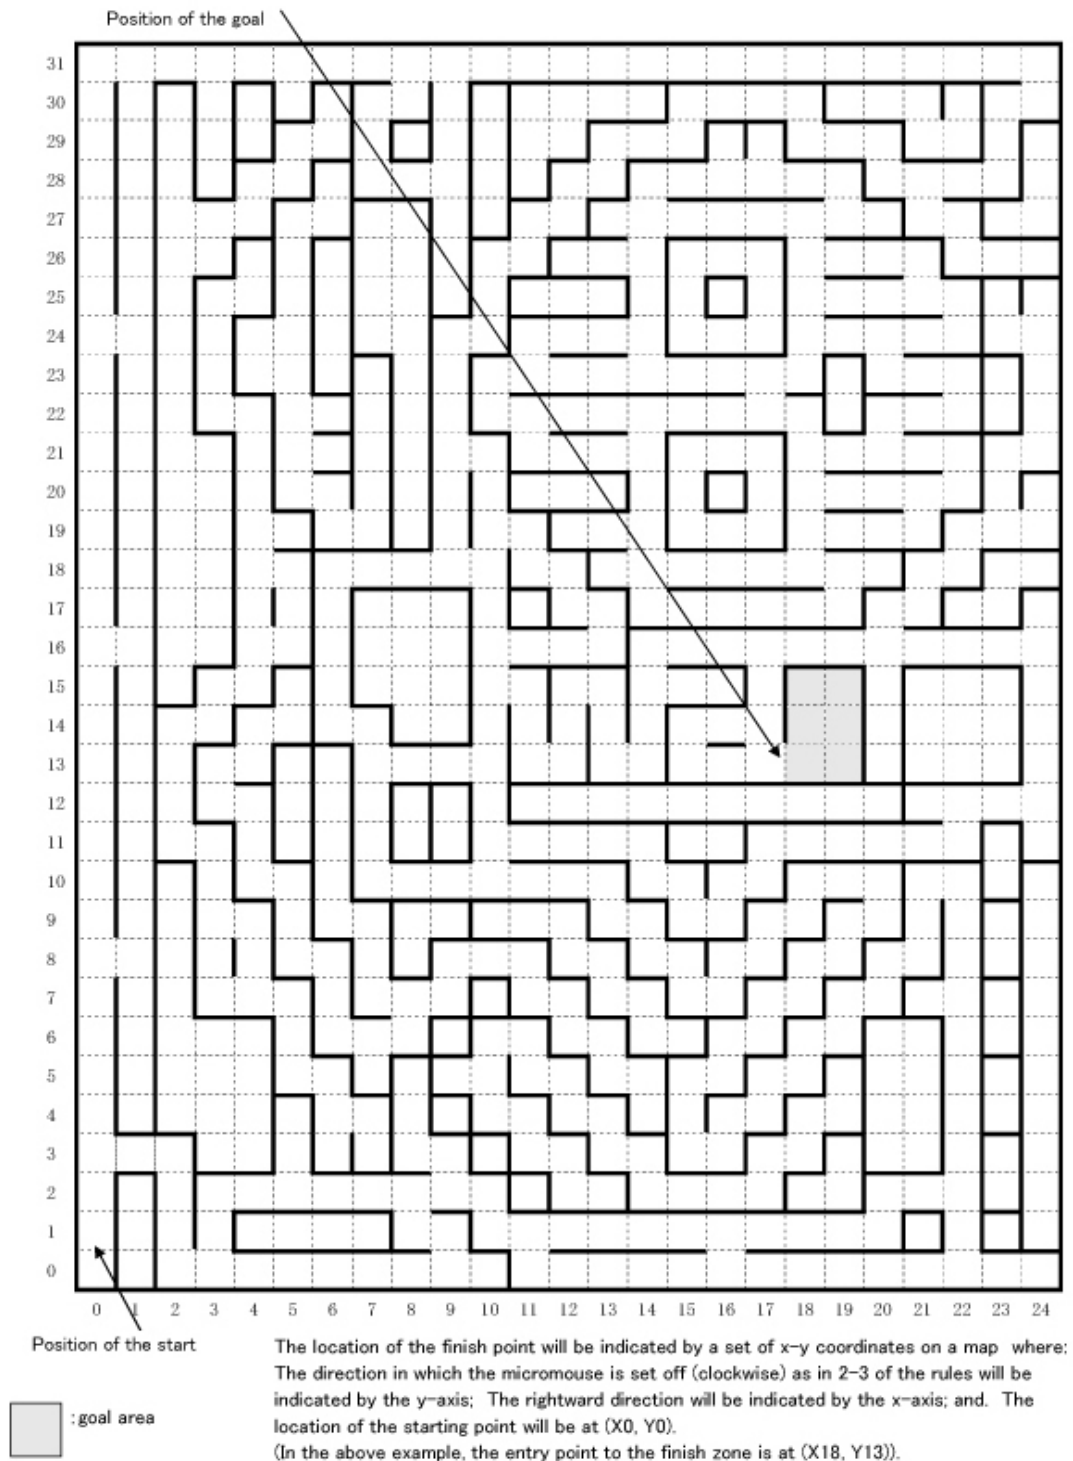

Fig. 2. The x-y coordinates for sensor locations and the entry point to the finish zone
- 2.3. The starting point of the maze will be located at one of the four corners of the maze. Micromouse starts in a clockwise direction. The finish point and the size of the finish zone will be determined individually for each competition. The entry point to the finish zone will be indicated by a set of x-y coordinates. (See Fig. 2 for an explanation on how to read coordinates.)